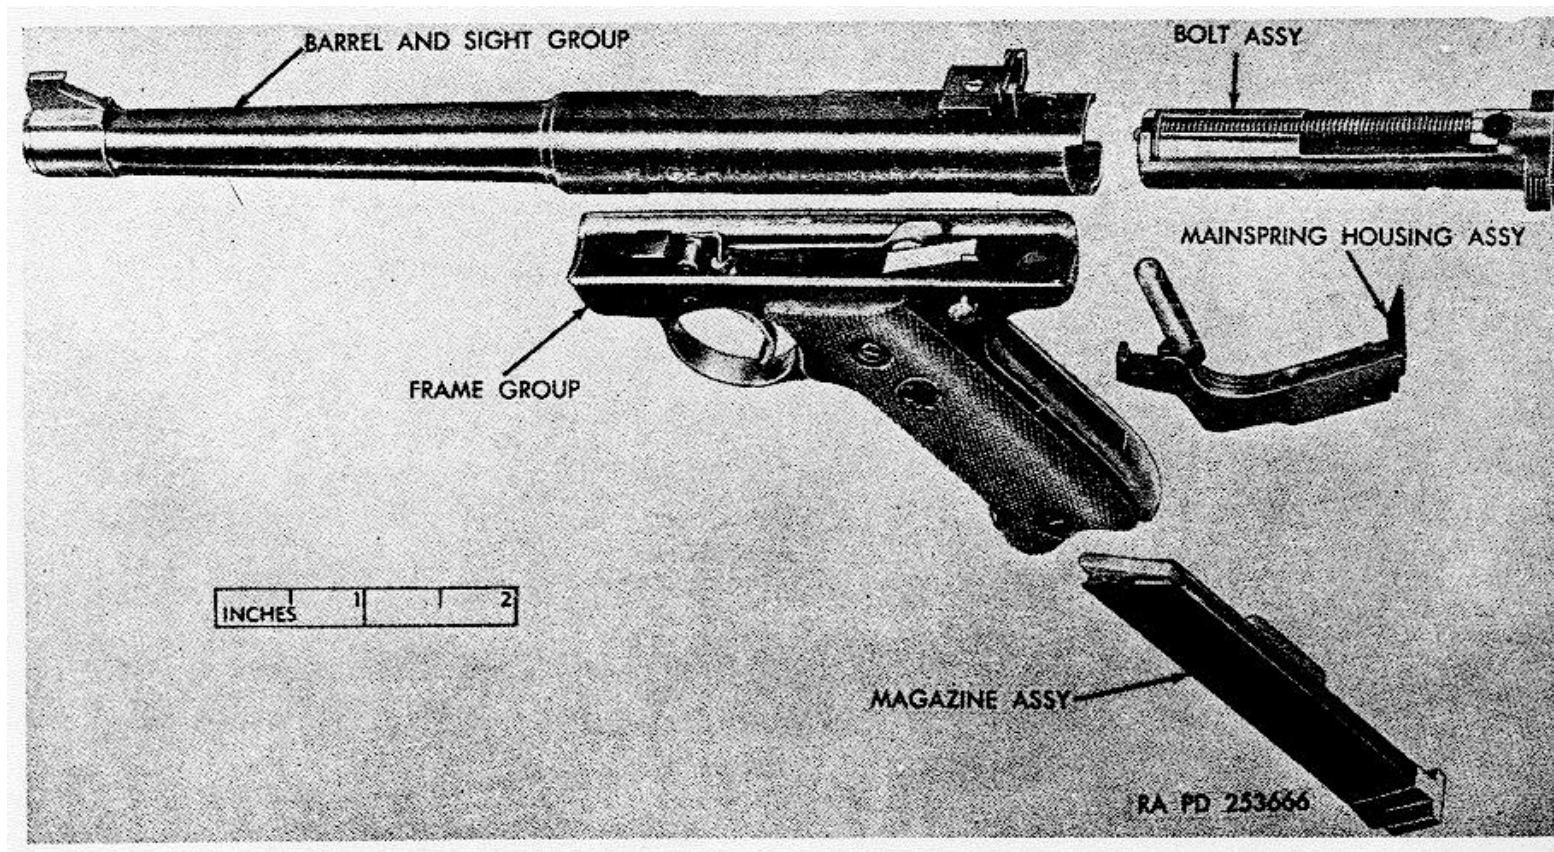

Figure 48. Pistol field stripped (Ruger).
- (1) Slide the grip frame (fig. 48) onto receiver and barrel assembly. The lug on the frame should fit beneath the slot on the receiver. The final position of front of frame should align with the front of the receiver.